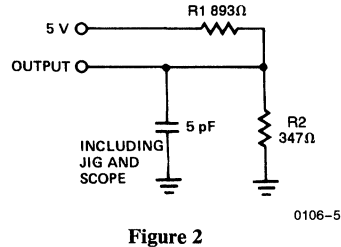

Figure 2
- tHZOE, tHZCE and tHZWE are specified with CL = 5 pF as in Figure 2. Transition is measured ± 500 mV from steady state voltage.